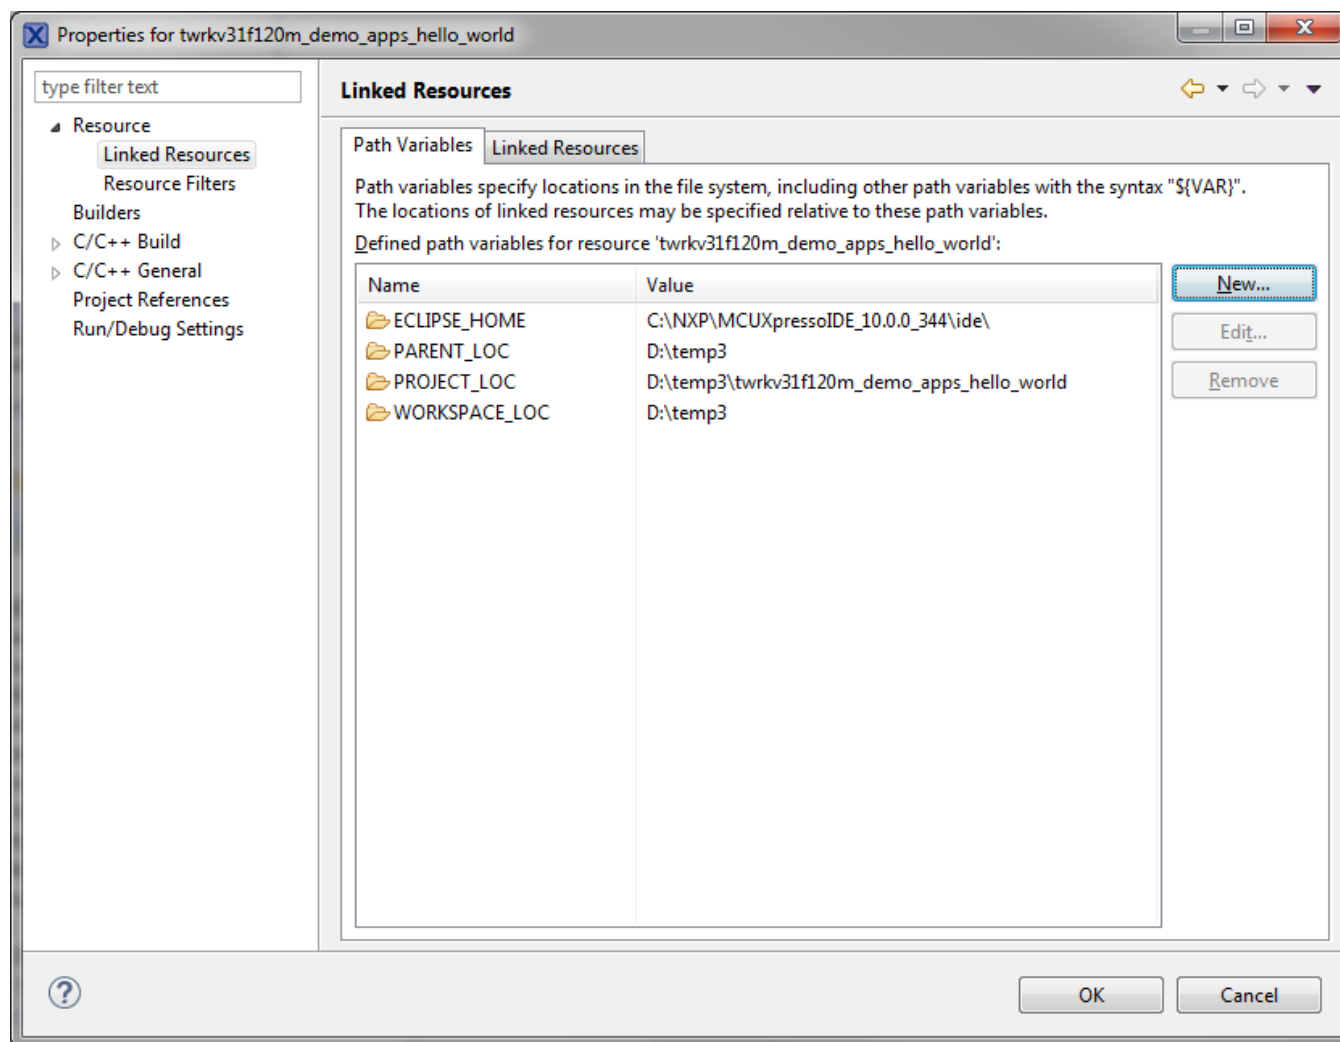

Figure 1-3. Project properties
2. Expand the Resource node and click Linked Resources. See Figure 1-3.